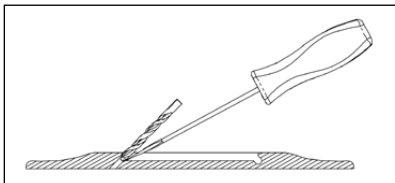

FIGURE 7
4. The last 1/8" at the end of the pickup is not active. At least 1/4" of saddle must project beyond the E strings for the pickup to produce a balanced string response. If your guitar has inadequate saddle slot extension beyond the outside strings, it will be necessary to drill a small horizontal hole at the appropriate end of the slot to extend the inactive region of the pickup beyond the saddle. It is important to avoid disrupting the floor of the saddle slot when doing this. To protect the slot, lay a narrow slotted screwdriver under the tip of the drill bit before drilling the horizontal hole. (refer to Fig. 7)
3. Drill the pickup hole at a 45 degree angle at the very end of the saddle slot (either end is OK). If you have a 1/8" saddle, a 1/8" drill bit should be used assuming it fits into the slot smoothly. If it feels tight, use a 7/64" bit. Place the blade of the narrow screwdriver under the tip of the drill bit when drilling to avoid removing material from the bottom of the slot. (refer to Fig. 7)